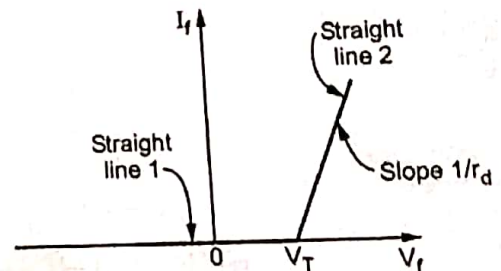

Fig. Q.18.2 Linear piecewise approximation
- Thus the approximation consists of two straight lines, one horizontal and other with slope $(1/r_d)$ as shown in the Fig. Q.18.2.